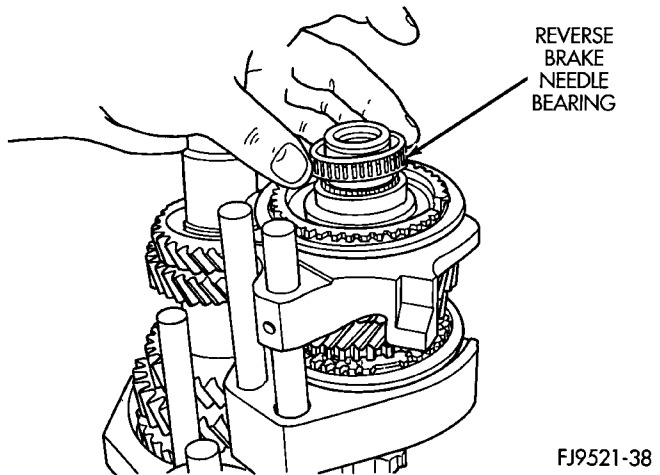

Fig. 61 Reverse Brake Needle Bearing
(5) Install reverse brake needle bearing (Fig. 61).